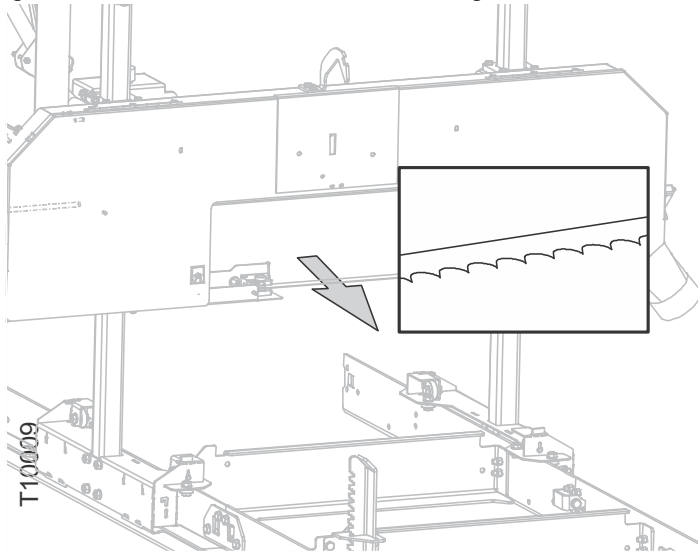

FIG. 4-8
**NOTE:** When installing a blade, make sure the teeth are pointing the direction of cut. (See FIG. 4-8 .)